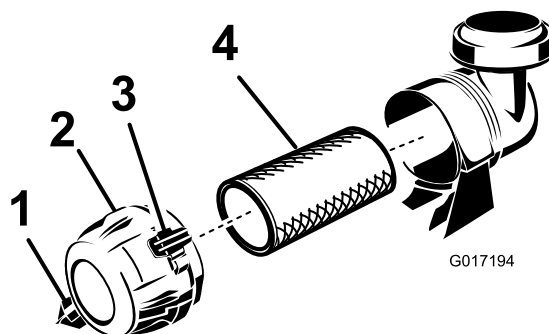

Figure 22
1. Pull the latch outward and rotate the air cleaner cover counterclockwise (Figure 22).
3. Gently slide the filter out of the air-cleaner body (Figure 22) to reduce the amount of dust dislodged.
3. Clean the dirt ejection port located in the removable cover (Figure 22).